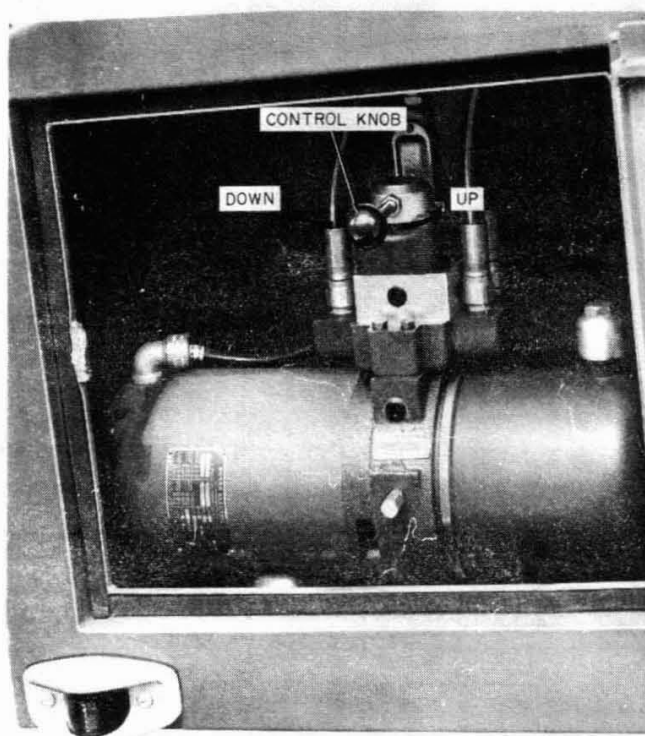

Fig. 5—Reel Loader Control
**2.08** A hydraulically operated reel loader-carrier is mounted on the rear of the truck. The standard size loader-carrier has a capacity of 2500 pounds, and the heavy duty model has a capacity of 3500 pounds. The capacity of each loader-carrier is clearly marked on the arm. The control (Fig. 5) for the loader is usually located in the right rear compartment of the truck.